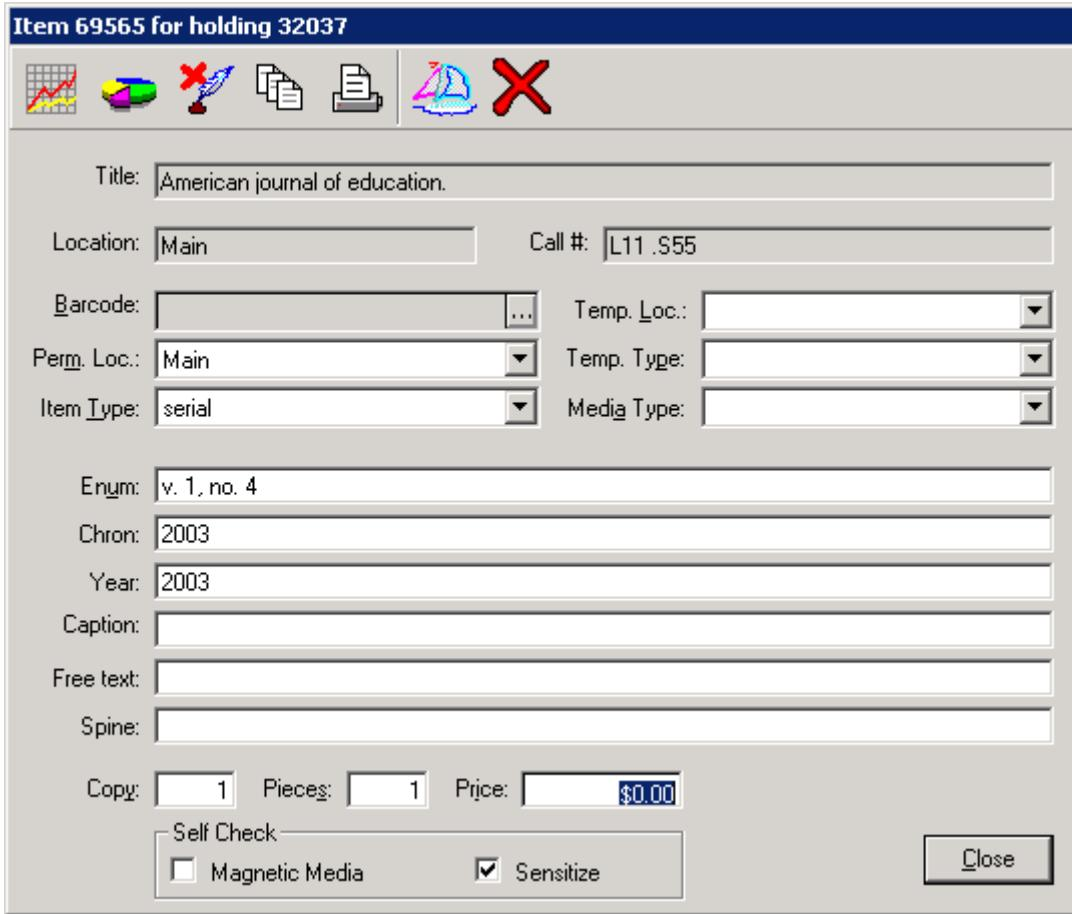

Figure 10-10. New Item Record dialog box
- If the **Create Items** check box is not selected on the **Item Creation** tab of your Session Workflows, an item record is not automatically created. However, after a line item copy has been received, you can select the copy from the hierarchy and click the **Item** button to display the **New Item Record** dialog box (Figure 10-10) and to create an item record.